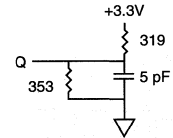

Fig. 2 OUTPUT LOAD EQUIVALENT
- ^tHZCE and ^tHZWE are specified with C_L = 5pF as in Fig. 2. Transition is measured ± 200mV from steady state voltage.